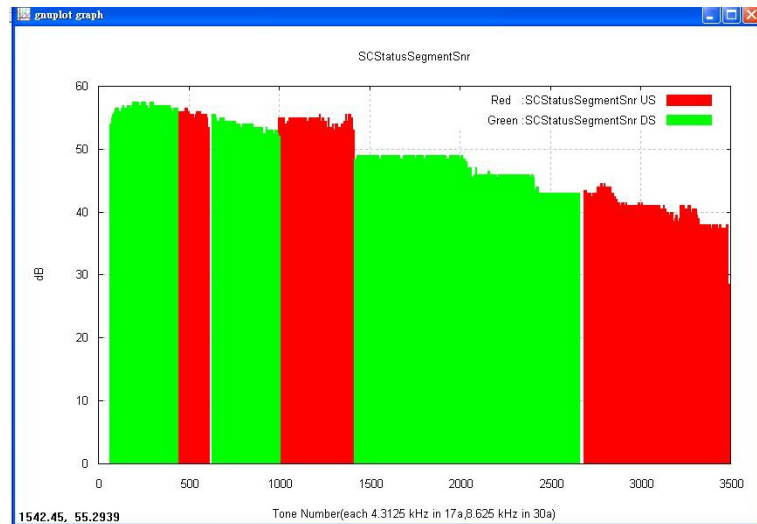

Figure 2.4: The window where the SNR margin of specific subcarriers can be monitored.
1. Please click “MIB” in the menu (reference as in figure 2.4)
4. The result will then look as in figure 2.4.